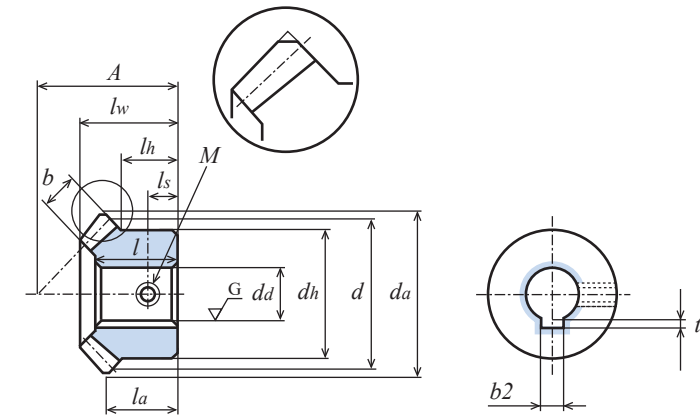

Fig. 1 (Tip chamfering)
- ★ No surface treatment is applied. Gears with a [=] are provided with key grooves and keys. ① This is a theoretical value obtained when a pair of gears of the same type and material are meshed with each other.
- ★ For the MGH Series, the teeth have been finished by induction hardening and the holes have been finished by grinding. Also, keys and set screws are provided. This product can be used without additional machining. (See Fig. 1.)